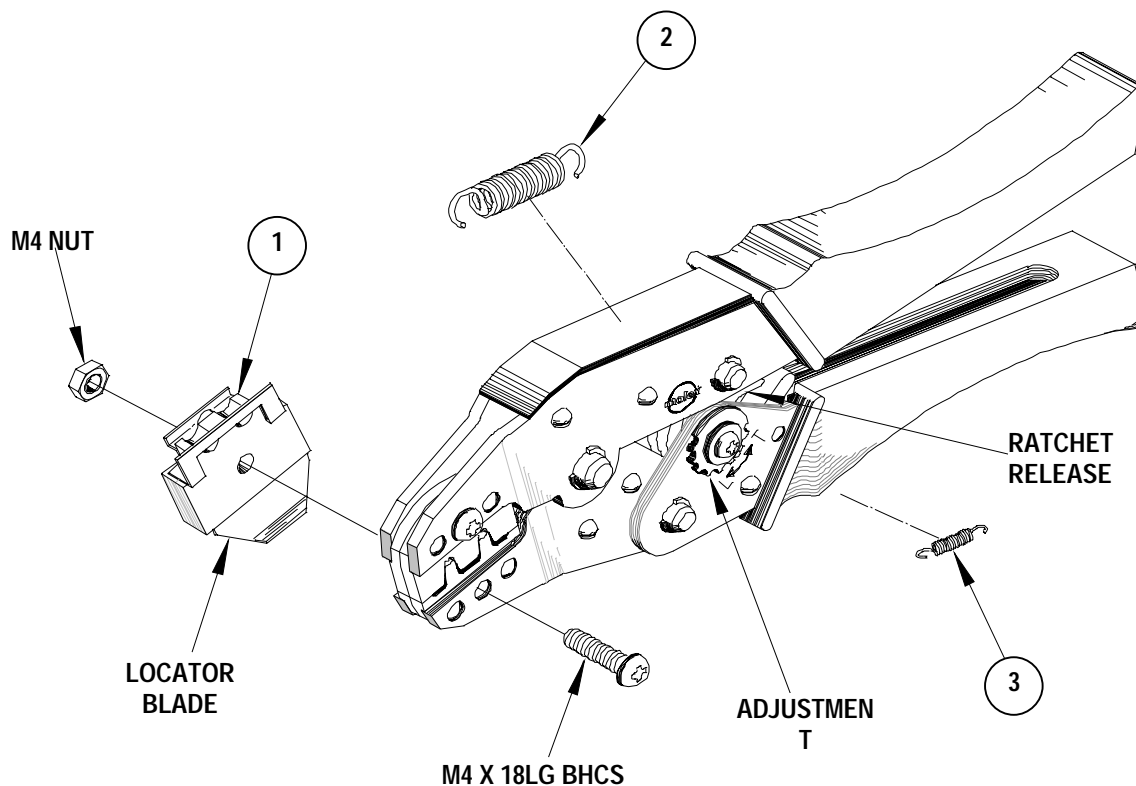

Figure 4
4. Close the tool until the ratchet releases, (See Figure 4).
Should this tool ever become stuck or jammed in a partially closed position, **Do Not force the handles open or closed**. The tool will open easily by lifting the ratchet release lever (See Figure 4).
How To Adjust Tool Crimp Force (See Figure 4)